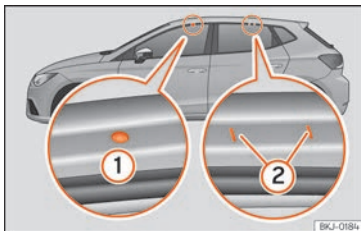

Fig. 168 Attachment points for the roof railings for the roof carrier system.
The front and rear attachment points ① and ② are only visible when the doors are open »» Fig. 168.